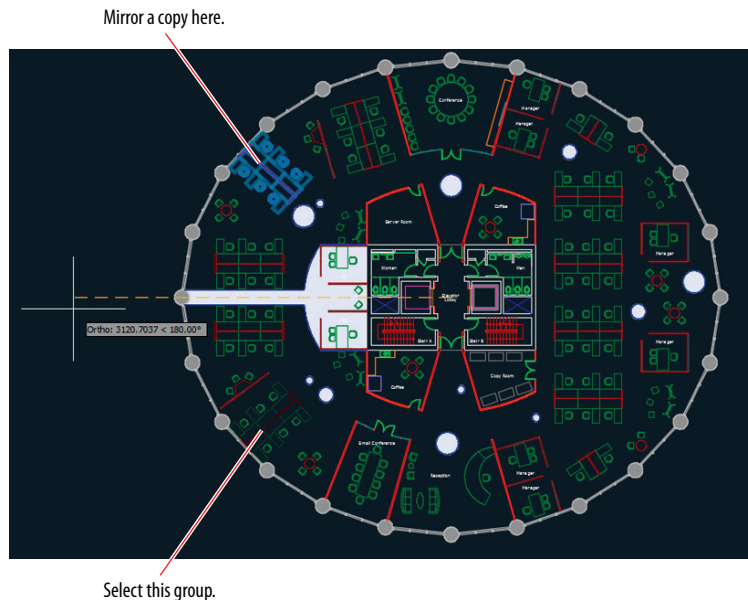

FIGURE 4.27 Mirroring a furniture grouping
- Press Enter to repeat the MIRROR command. Double-click the mouse wheel to zoom to the drawing extents. Select the furniture system indicated in Figure 4.27 and press Enter. For the first point of the mirror line, type **0,0** and press Enter.